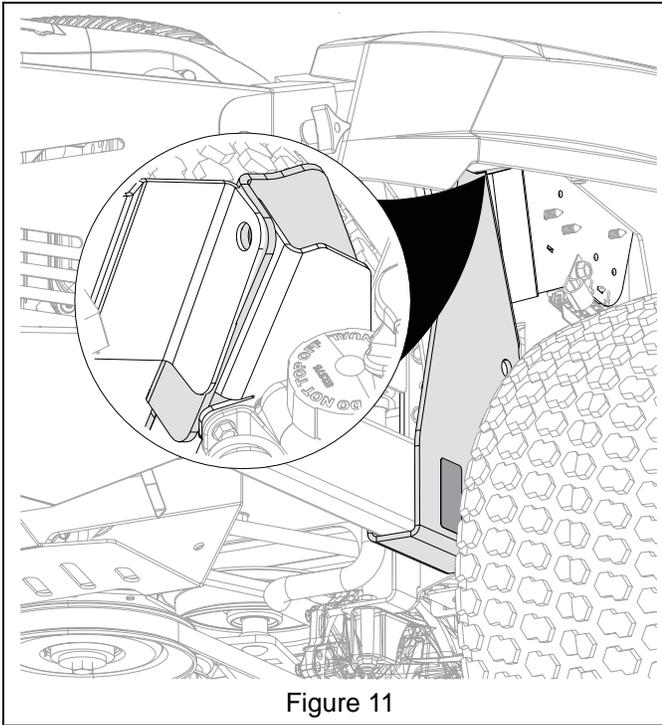

Figure 11
- From below unit, position right-side support bracket on frame. Ensure that support bracket is positioned between control panel bracket and existing support bracket. See Figure 11.